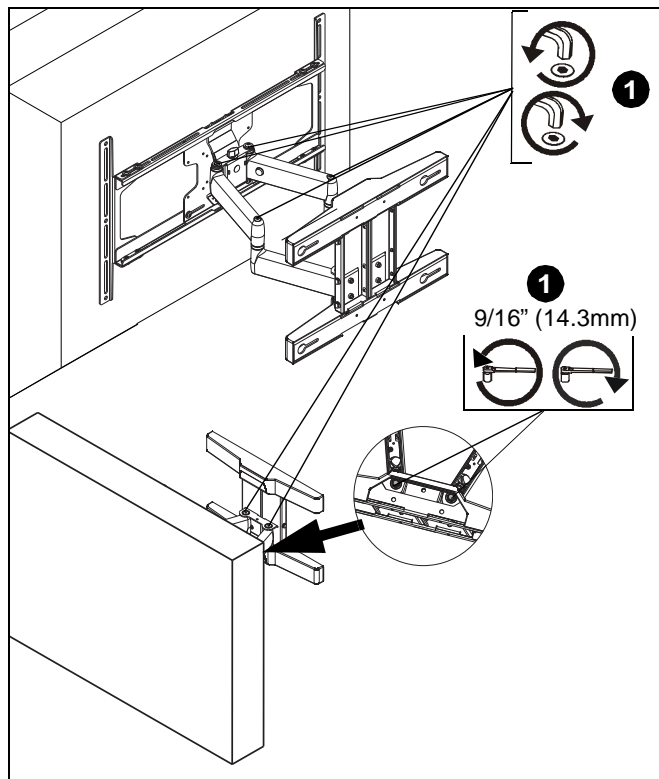

Figure 15
1. Using hex keys (I, J), loosen or tighten adjustment screws as required to achieve desired tension. (See Figure 15)